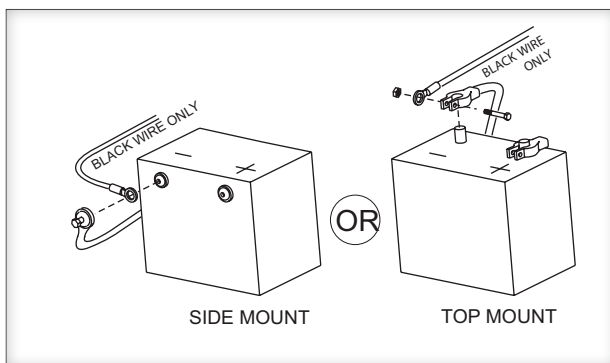

Figure 17-2
**2. Begin routing the wiring harness at the vehicle battery.** Attach the black wire to the negative terminal on the battery. Do NOT attach the red wire until the very end of installation. [Figure 17-2]